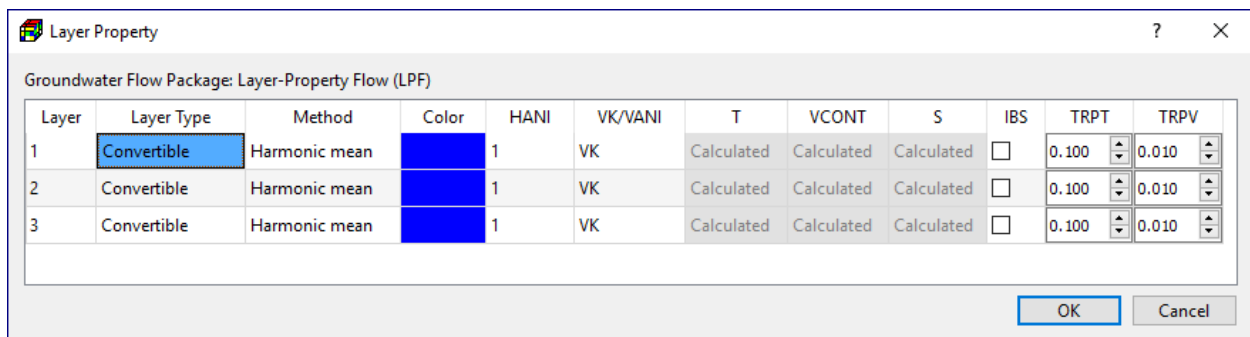

Figure 5. The Layer Property dialog box
1. Select Discretization > Layer Property to display the Layer Property dialog box (Figure 5). By default, all model layers are convertible between confined and unconfined. MODFLOW handles a cell in a convertible layer in the following manner: